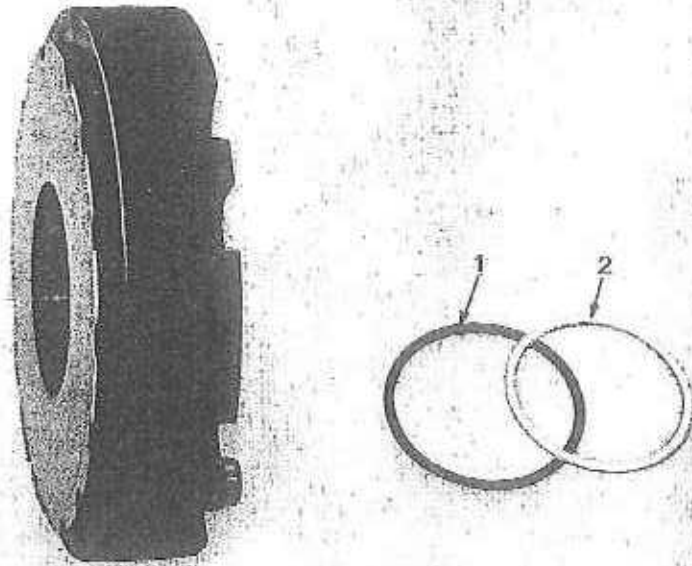

FIG. 13
3. (Fig. 13) Prepare the two end covers for assembly as follows:—